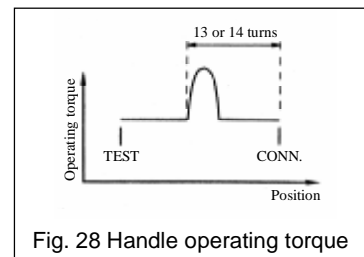

Fig. 28 Handle operating torque
- 1) When the main contact starts engaging, the force required to turn the handle will increase as shown in Fig. 28. This symptom does not mean a malfunction. Continue to turn the handle. Rotating the handle more 13 or 14 turns moves the breaker body to the CONN. position, where the handle cannot be turned with its max. operating torque.